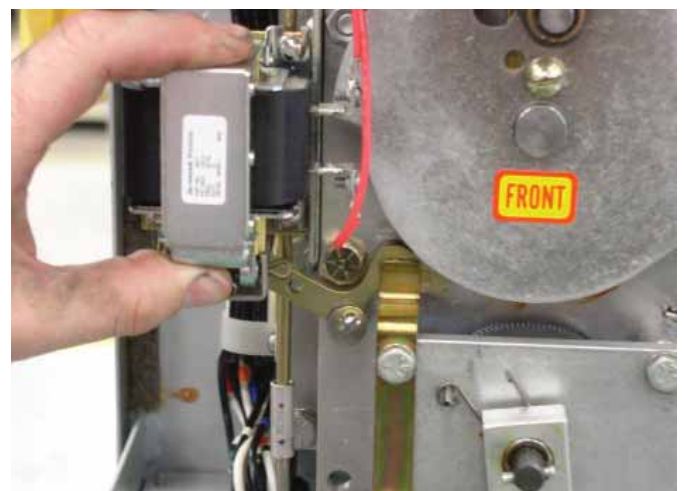

Figure 48.
- iv. Carefully squeeze the Quick Close coil to close the unit. Refer to Figure 48.